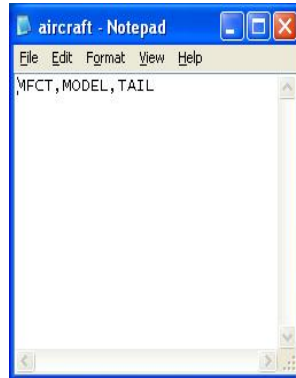

Figure 2.1 - Create a csv file with headings
5. In order to match up the correct aircraft manufacturer, model and tail numbers type in MFCT, MODEL, and TAIL on the first line as shown below in figure 2.1: